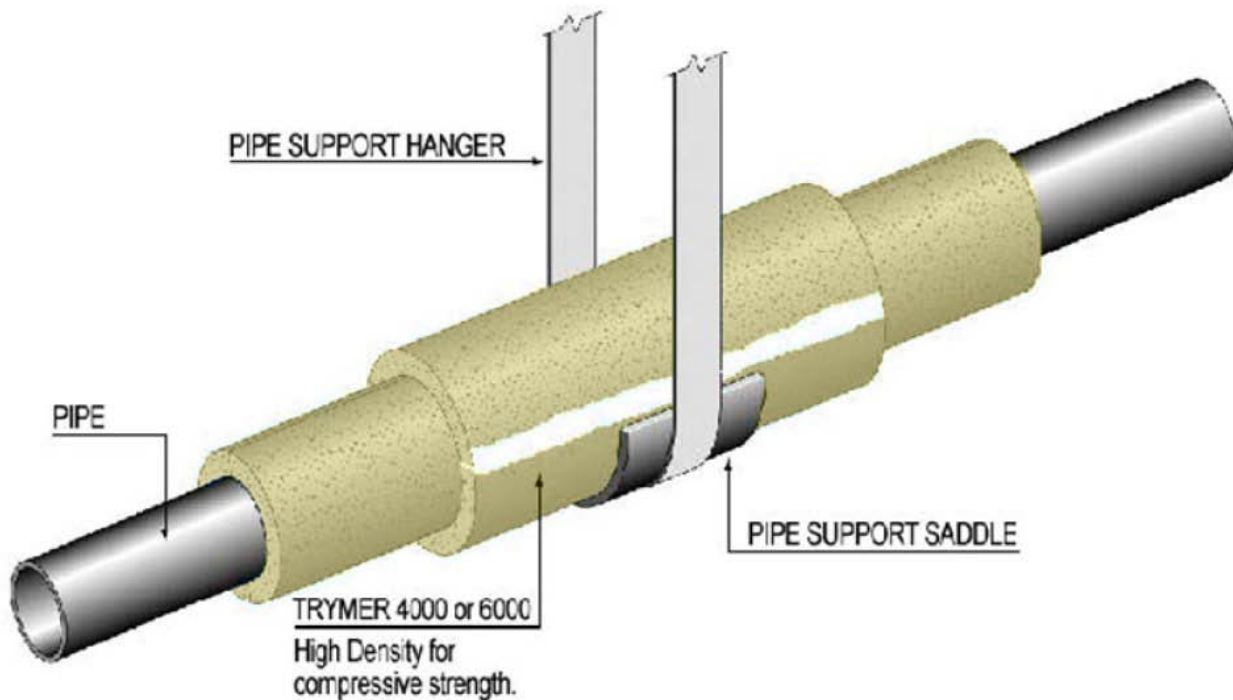
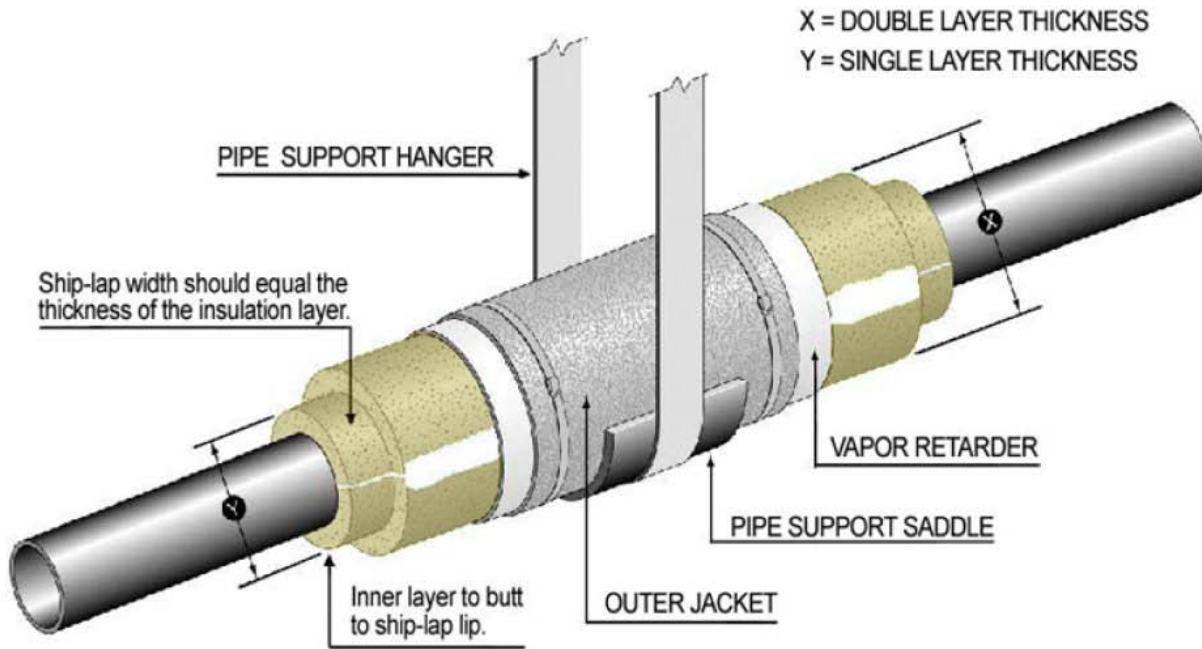

**Figure 5**
**Figure 6**
- 4.1.5 Install half length pipe section half round on bottom of all pipe hanger saddles with a full pipe section half round on the top so as to maintain a staggered joint through the pipe hanger saddle (see Figure 5 in Appendix B). In double layer systems install nested half and full pipe half round sections in bottom of saddle or use a full thickness single layer pipe section with shiplap ends cut to the depth of the inner layer thickness so the outer layer will overlap (see Figure 6 and Figure 7 in appendix B).